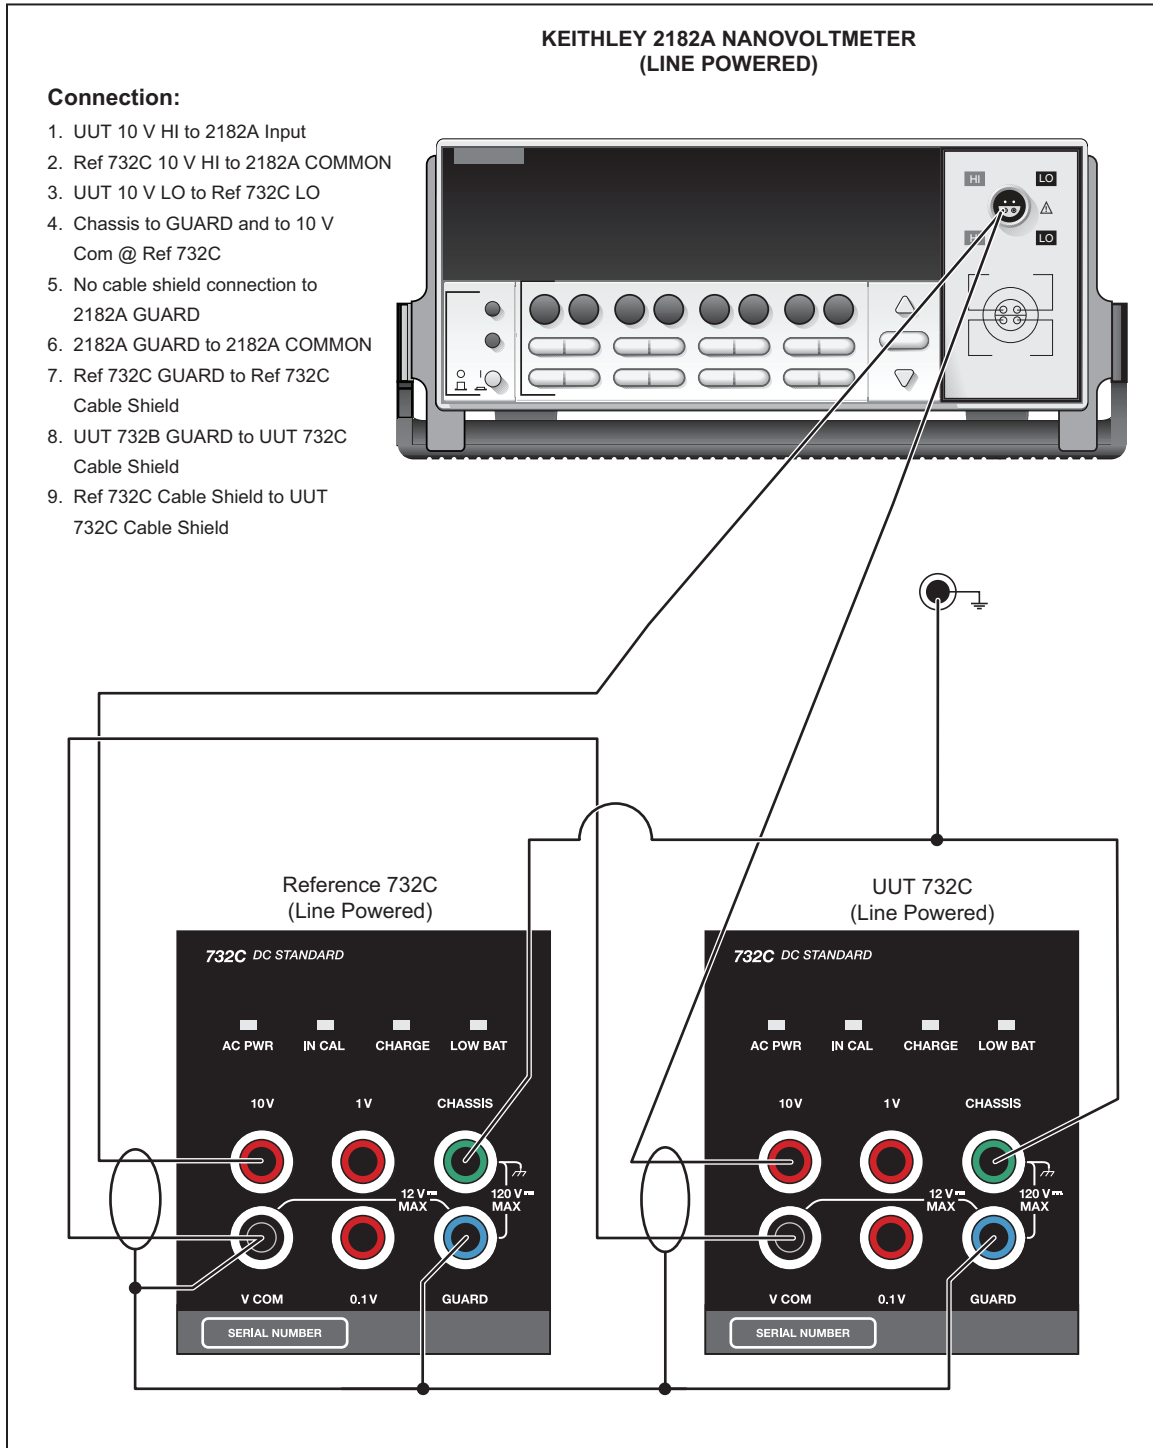

Figure 16. Output Calibration Connections
See Figure 16 for the following discussion. The Power Supply Module (A5) contains several functional circuit groups as listed below:
1. Connect the DUT, calibrated 732C and meter as shown in Figure 16.